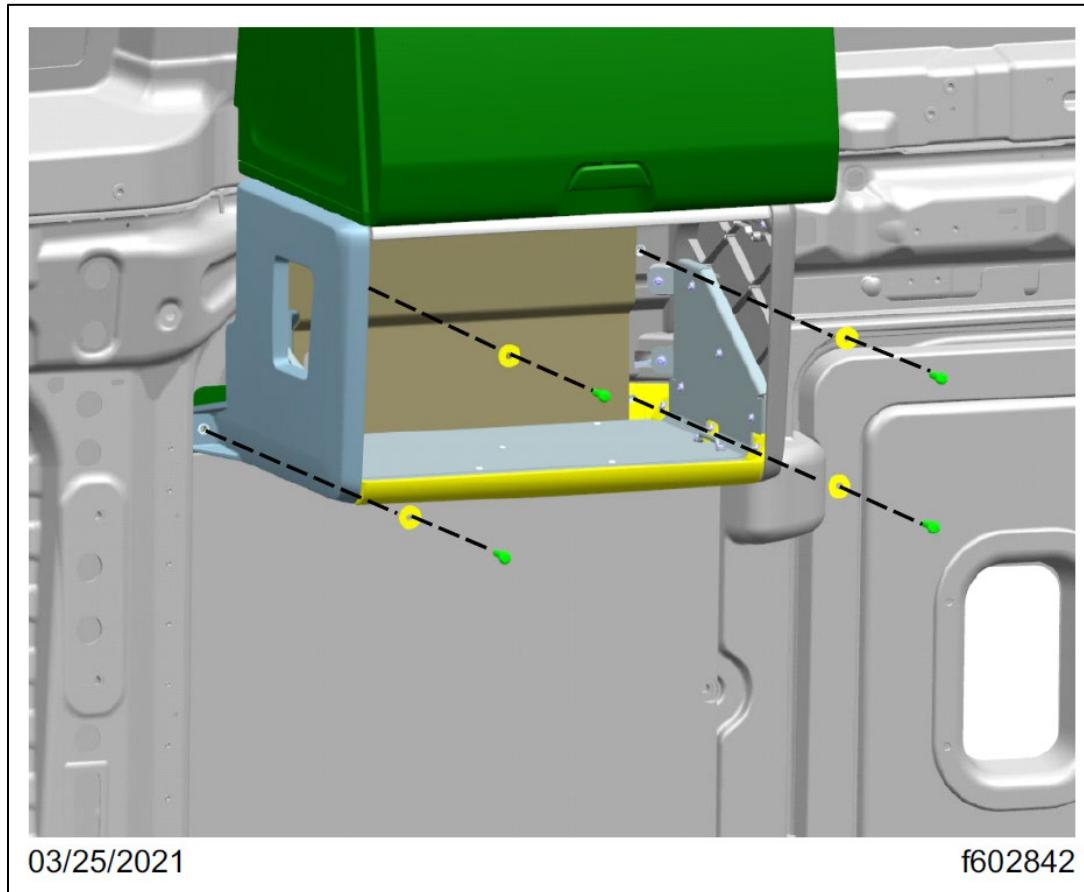

Fig. 39, Fasteners That Attach the Microwave Cabinet to the Sidewall
5.3. Remove the four fasteners that attach the microwave cabinet to the cab wall. See **Fig. 39**.